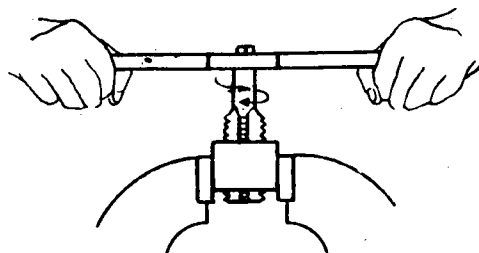

Fig. 3
2. If the cutting becomes difficult, turn the tap in the opposite direction to break off the cuttings (Fig. 3).